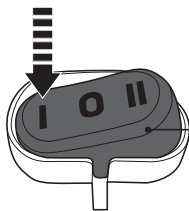

Fig. 23
- > Press the on / off switch (11) to position I to switch the product on (Fig. 23).